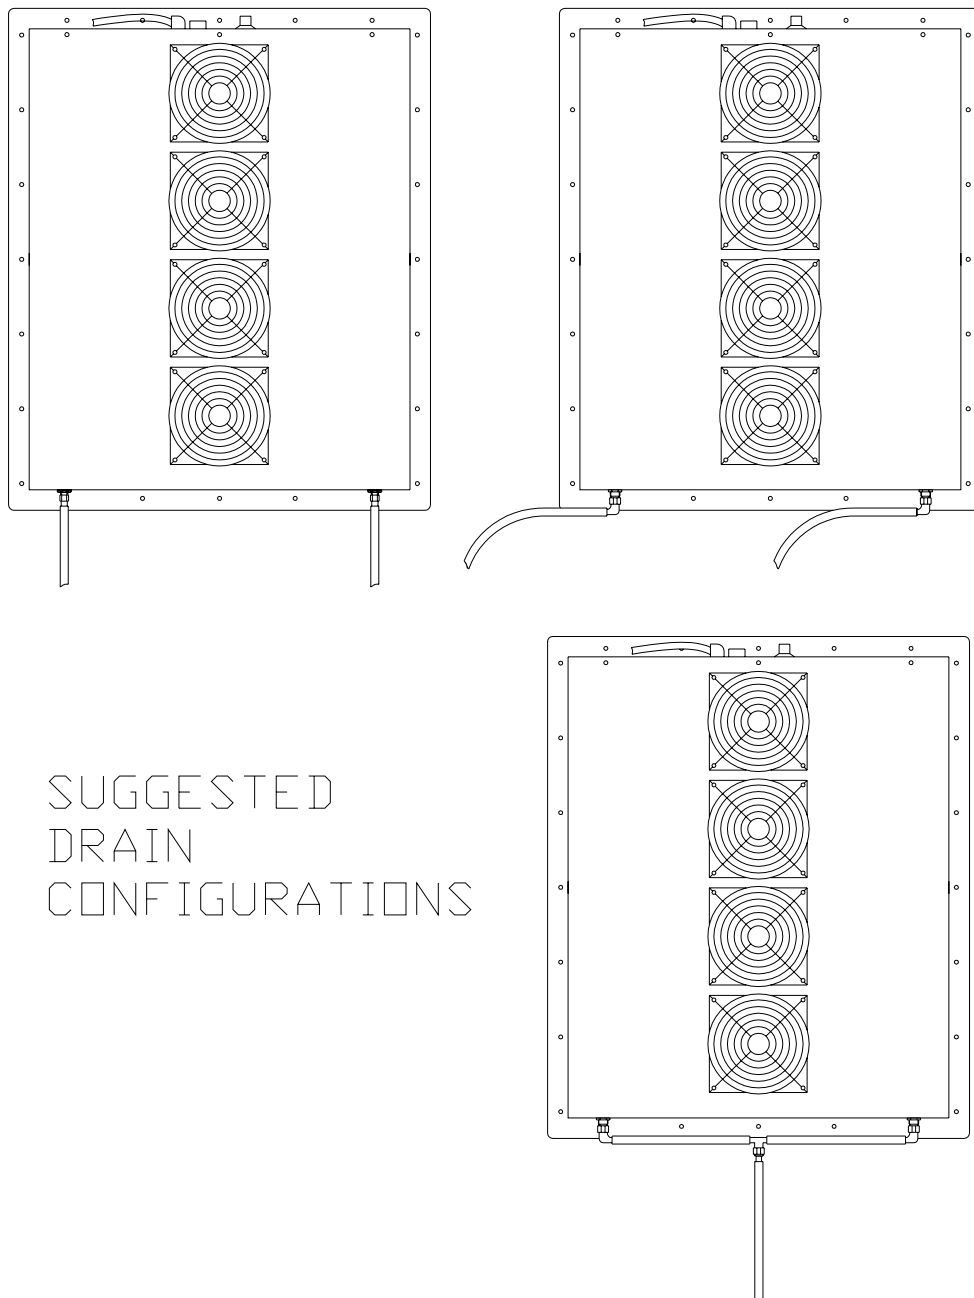

FIG. 2.4
1. Various hose fittings and a length of hose were provided with the AC unit. Review the Fig. 2.4 below for suggested drain line configurations.